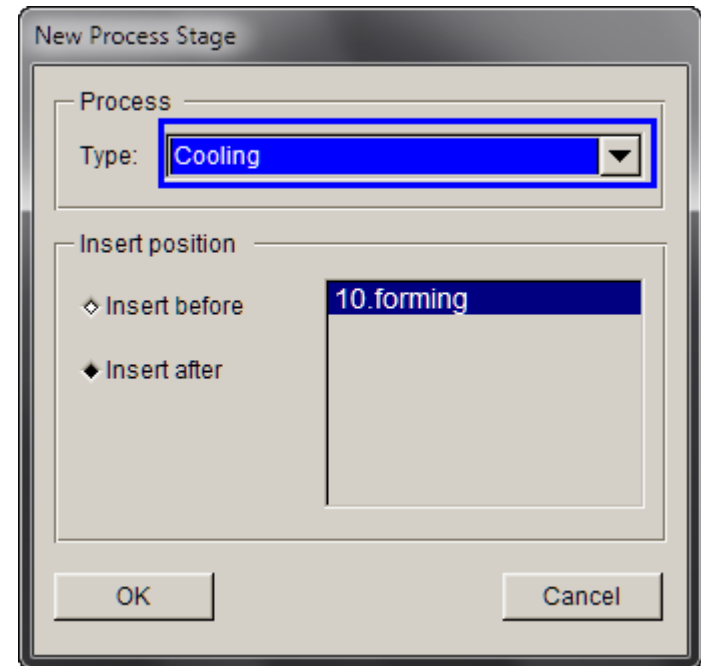

Figure 53
2. Select the type: **Cooling**. See Figure 53.